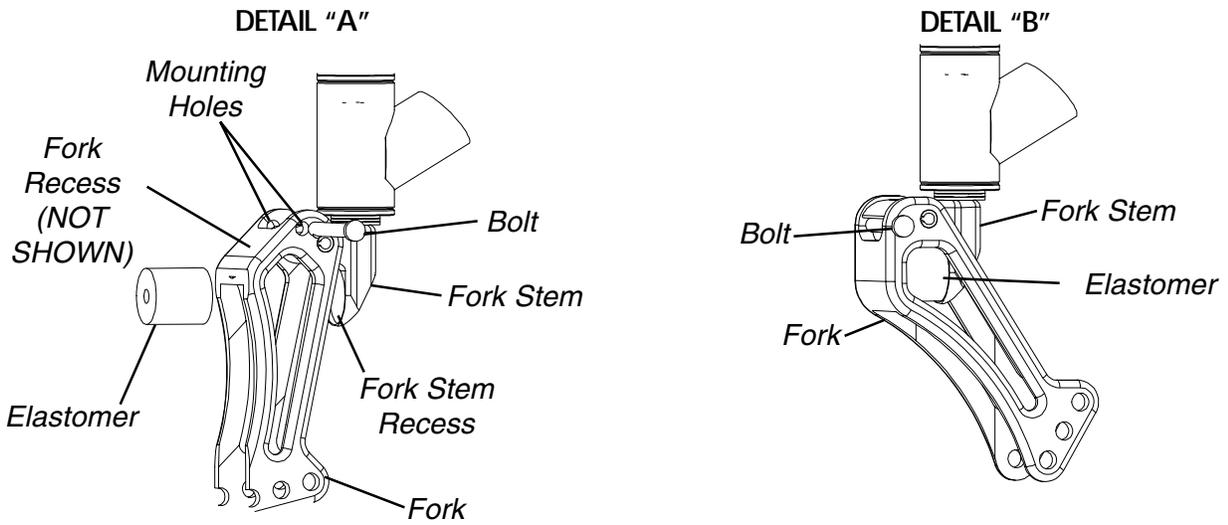

FIGURE 2 - REPLACING FRONT ELASTOMERS
**REPLACING FRONT ELASTOMERS (FIGURE 2)**